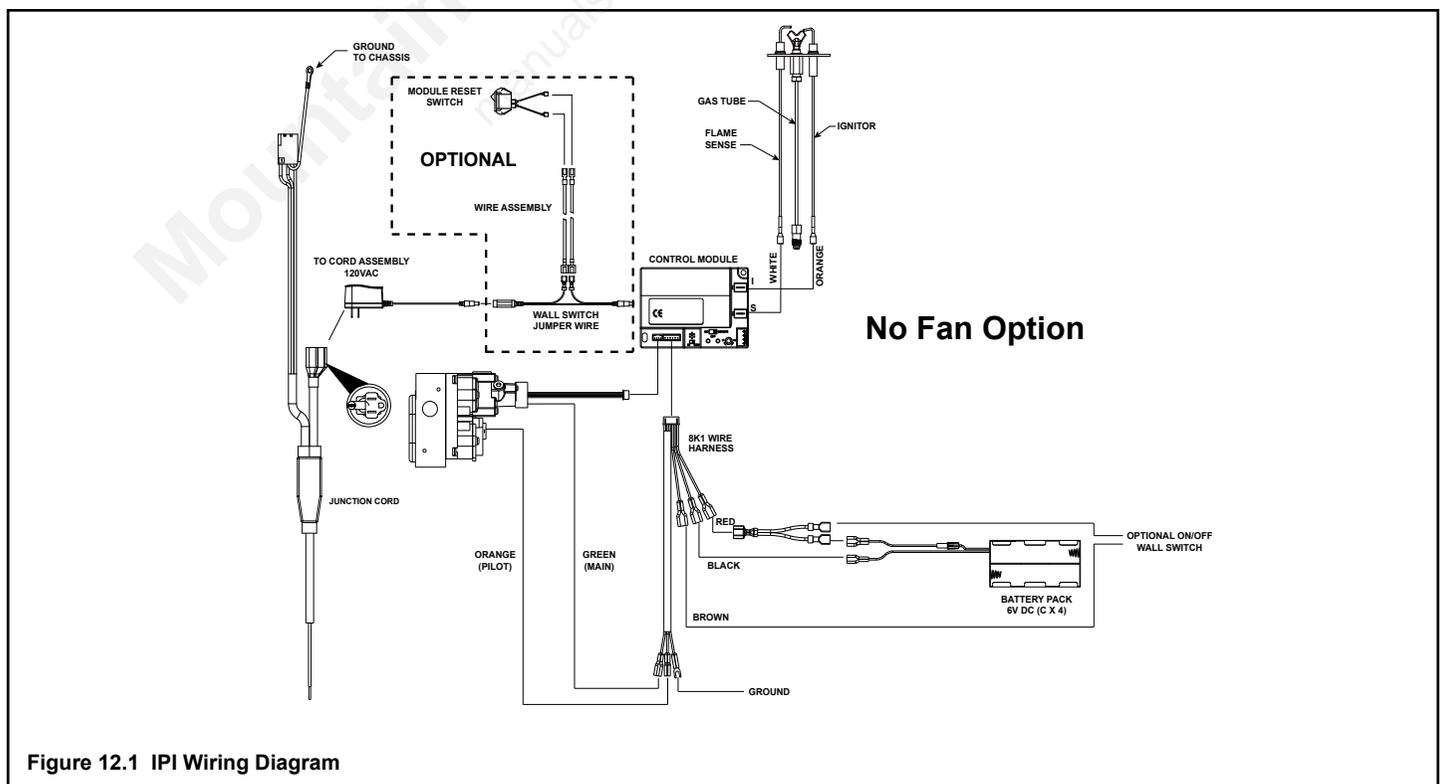

Figure 12.1 IPI Wiring Diagram
- Refer to Figure 12.1, IntelliFire Plus™ Pilot Ignition (IPI) Wiring Diagram.